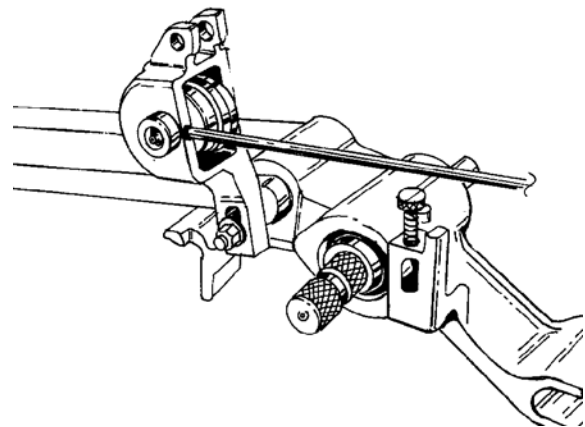

Figure 16 – Loosen Set Screw
6. Loosen set screw that holds groove roll shaft. (Figure 16)